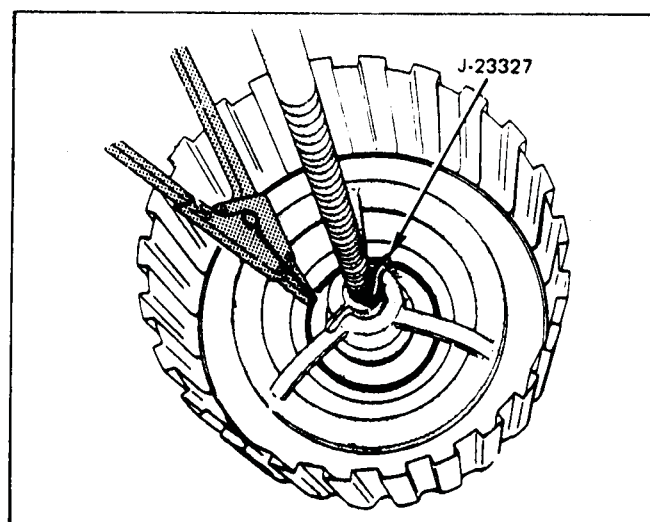

Figure 80
7. Using J-23327 spring compressor, as shown in Figure 80, compress the return springs.
8. Install the snap ring into snap ring groove as shown in Figure 80.